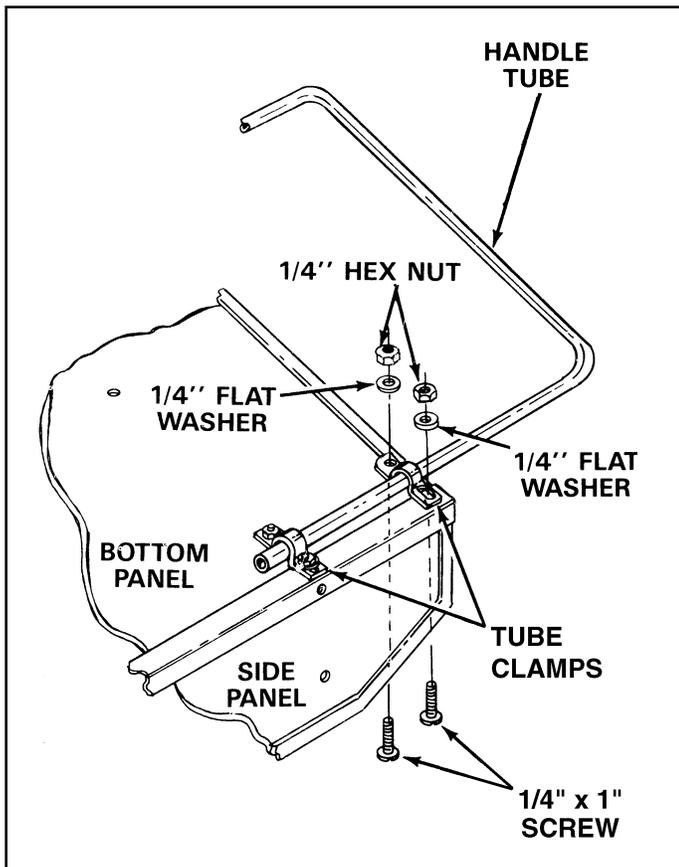

FIGURE 10
16. Turn the cart upside down. Place the handle tube on the bottom of the cart as shown in figure 10. Place the four tube clamps over the handle tube, **with the longer leg of each tube clamp to the outside**. Secure the four tube clamps over the handle tube using eight 1/4" x 1" screws, eight flat washers and eight hex nuts. Make only finger tight until all eight screws are in place and then **tighten securely**. See figure 10.
The length of the handle tube can be adjusted by sliding the tube in or out before tightening the four clamps. See figure 10.